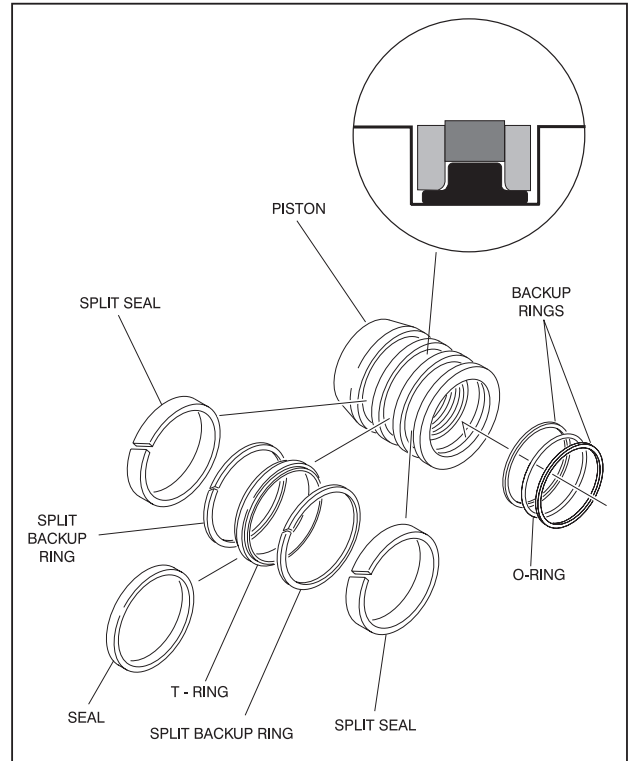

Figure 2-11. Piston Seal Kit Installation
NOTE: The backup rings for the solid seal have a radius on one side. This side faces the solid seal. (See magnified insert in Figure 2-11.) The split of seals and backup rings are to be positioned so as not to be in alignment with each other.
16. Place new guide locks and seals in the applicable outside diameter grooves of the cylinder piston. (See Figure 2-11., Piston Seal Kit Installation)